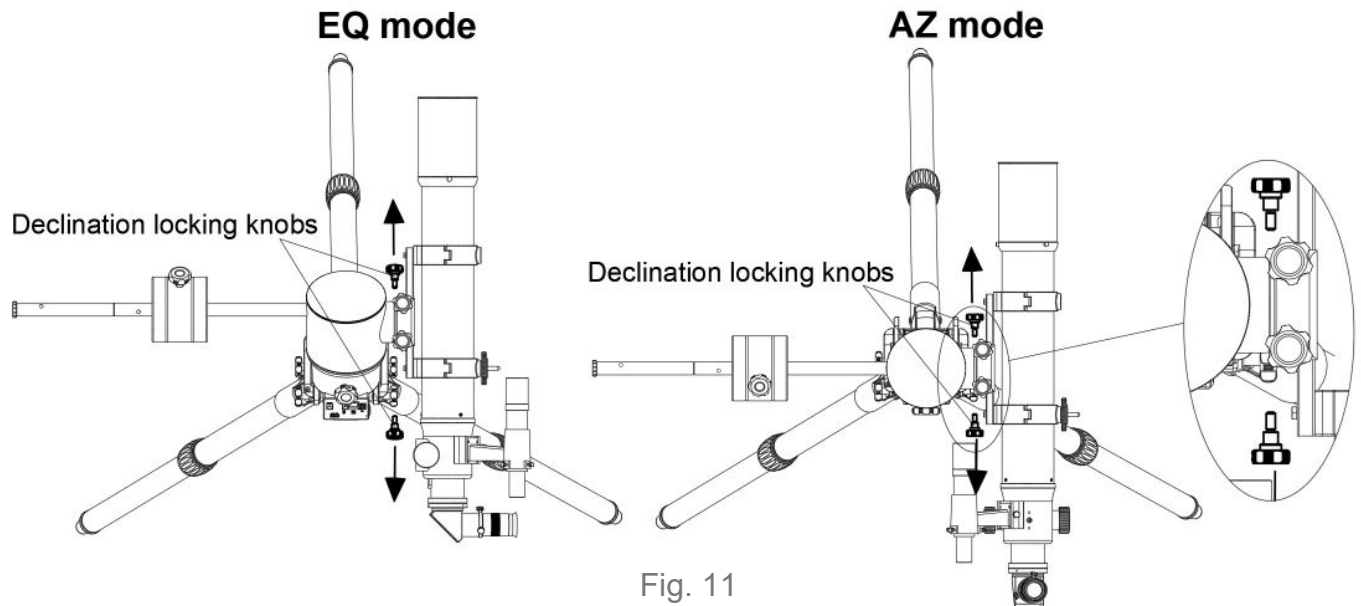

Fig. 11
* Hold the telescope with left hand and remove the two declination locking knobs. (Fig.11)